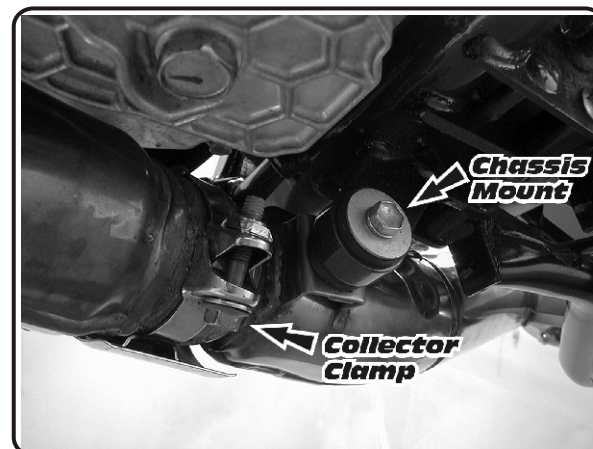

Fig. 2
- 5 Install chassis mount bolt loosely. (See Fig.2)